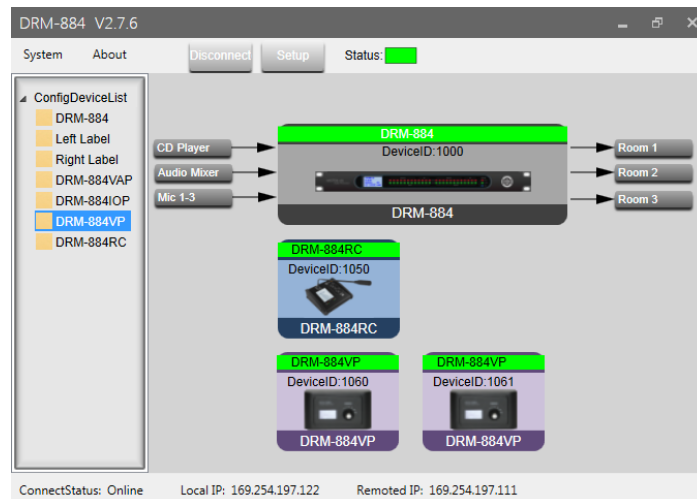

Fig. 15 System Configuration (Daisy Chain Network Mode)
In the "Daisy Chain Network Mode", the constellation of the devices used can be shown. To do this, drag the names of the devices used from the "Config Device List" and drop them in the area on the right (fig. 15). The device is shown as a block which can be placed as desired by means of the mouse. The block contains the device name, the device ID, the type name of the device and a picture. The device name is identical to the type name at first, but it can be changed individually.
To connect the program to the devices, click the button "Connect". (Figure 15 shows an example where the connection has already been made. This is why the option "Disconnect" is shown instead of "Connect".) When the message "Remote device ip is empty or invalid" appears, search for the connection: Click "Setup". The following window will appear:
- 4) In the window with the device constellation displayed (fig. 15), click "Connect".
After starting the program in the “Star Network Mode” or after double-clicking the block of DRM-884 in the view of the device constellation in the “Daisy Chain Mode” (fig. 15), the settings of a DRM-884 connected will be loaded to the computer and shown in the view “Input DSP Channel”. To change the view, click the buttons at the top. A change of settings on the screen will directly affect signal processing of DRM-884.